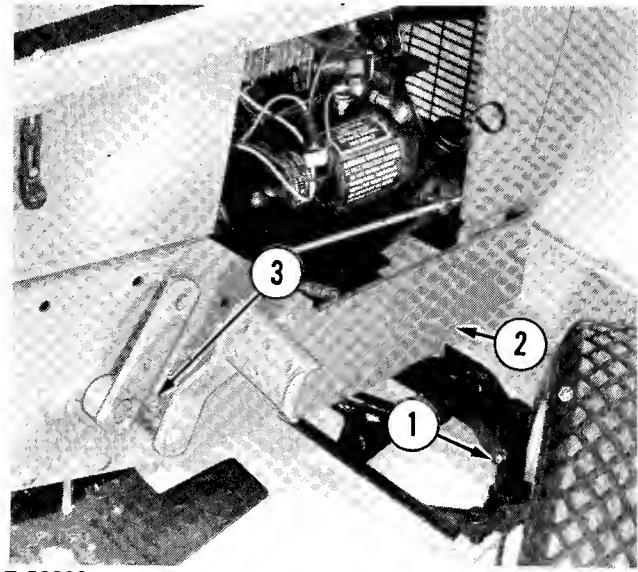

FIGURE 4 - Grease Fittings
1. One fitting on R.H. front axle spindle (Figure 4).
2. One fitting on L.H. front axle spindle (Figure 4, fitting not visible).
3. One fitting on clutch-brake pedal (Figure 4):